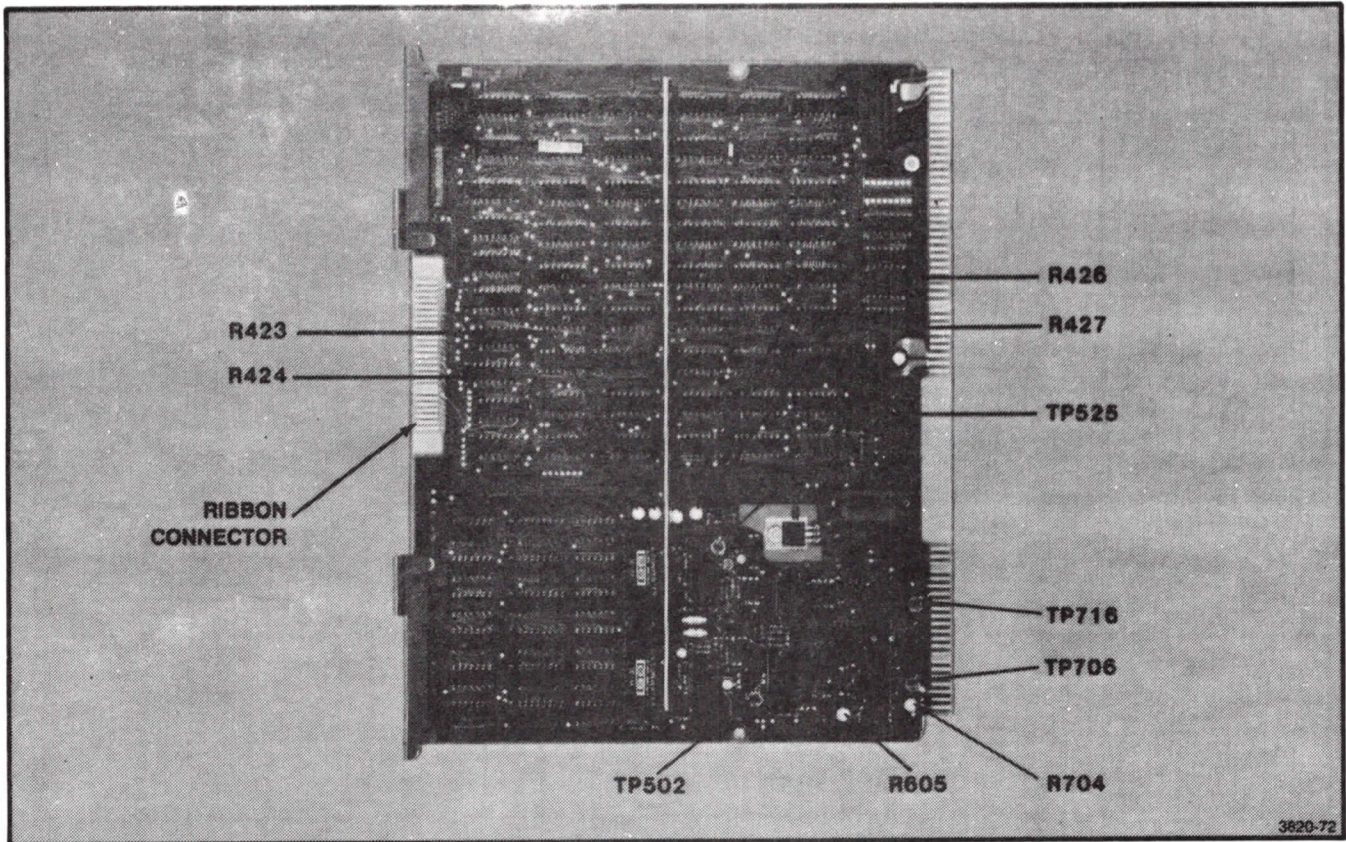

Figure 10-7. Vector Generator Board TP and Adjustments Locations.
8. Connect the DVM lead to TP 706 and adjust R425 (X DAC offset) for a value of -4.950 V. See Figure 10-7.